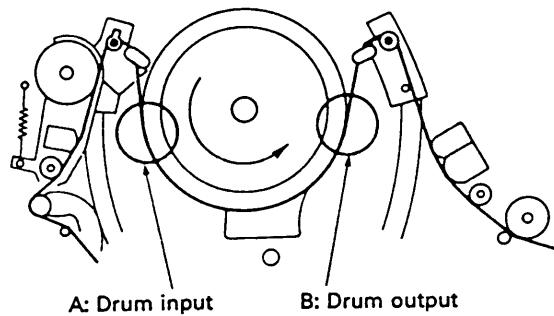

Fig. 6-1 Tape transport check
- During PLAY mode, observe tape at the input and output portions (A and B in Fig. 6-1) of the head drum lead. Confirm that the tape slips neither upward nor downward with respect to the lead as shown in Fig. 6-2.